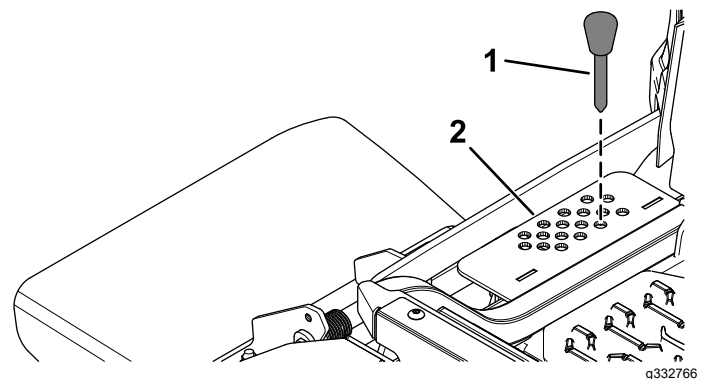

Figure 1
8. Remove the height-of-cut pin from the height-of-cut bracket (Figure 1).